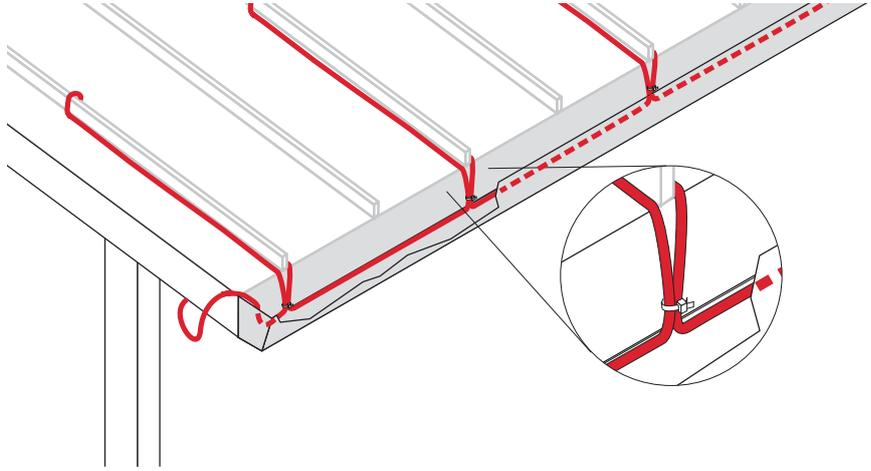

Fig. 8 Layout on a standing seam roof
For sloped standing-seam metal roofs, ice dams may form at the roof edge. To maintain a continuous path for melt water to run off, route the heating cable along the seams as shown in Fig. 8 and follow the attachment recommendations in "Step 6 Select attachment accessories and method" on page 21. Additional heating cable may be needed for gutters, downspouts, and valleys.
- Run the heating cable up one side of the seam, loop it over to the other side, and return it to the bottom of the gutter. Continue along the bottom of the gutter to the third seam and repeat the process (Fig. 8 on page 10). If the seams are more than 24 inches (60 cm) apart, trace every seam.
**Note:** Attachment methods are not shown in Fig. 8. For attachment methods, proceed to "Step 6 Select attachment accessories and method" on page 21.